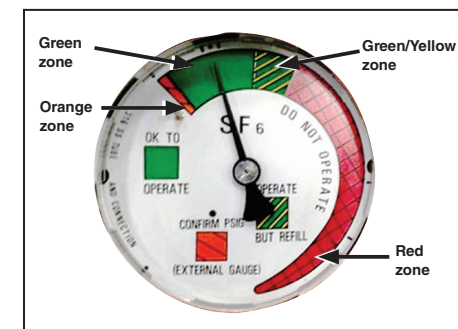

Figure 3. Internal gas-pressure gauge. SF₆ gauge shown, Vista Green models similar.
Vista switchgear uses a temperature-compensated gas-pressure gauge inside the tank to display the insulating gas pressure. The gauge includes four color-coded zones. See Figure 3. If the needle is in a zone, it denotes the following:
- STEP 1.** Make sure the gas-pressure gauge is in the Green zone (or the Green-and-Yellow striped zone) by lifting the viewing window cover over Way 1. See Figure 3.